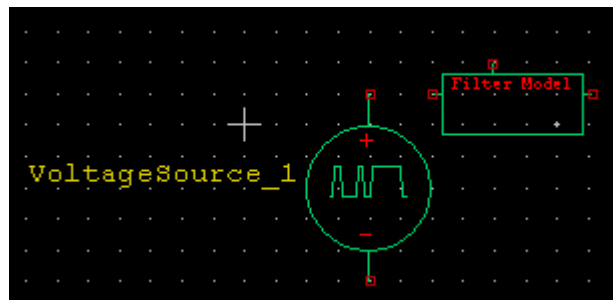

Figure 124: Viewing the module and its voltage source
- Select the voltage source instance, use the middle mouse button to move it to the left of the filter model module (Figure 124).